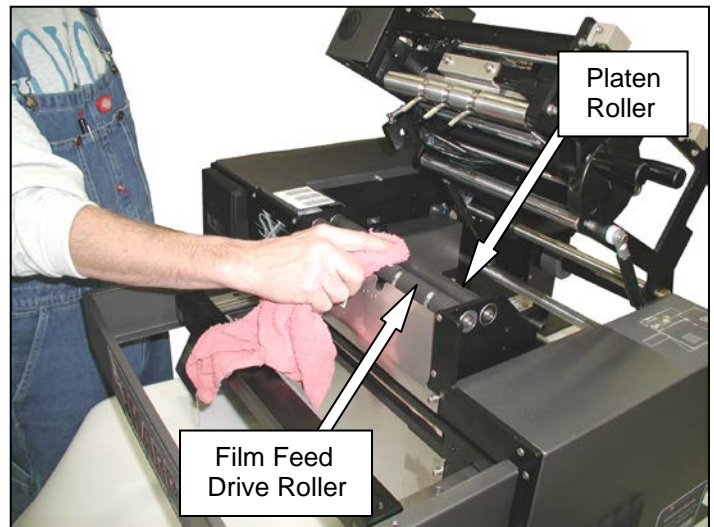

Figure 2-3. Cleaning the Film Feed Drive Roller
5. Remoisten the lint-free cloth with isopropyl alcohol and rub back and forth along film feed drive roller as shown in Figure 2-3. Clean roller until residue is removed. Be careful not to damage rubber coating on roller, as this will affect machine performance.